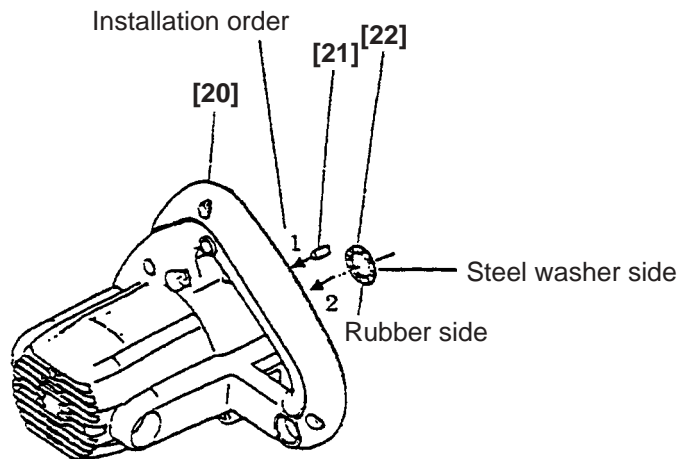

Fig. 8
(1) Assembling the Bearing Lock [21] and the Thrust Washer [22] (See Fig. 8.)